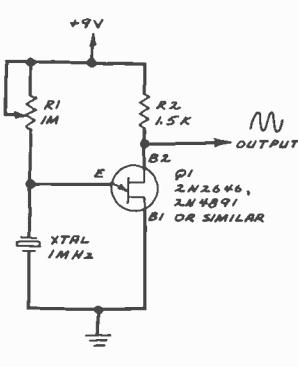

Fig. 7. UJT oscillator.
**Quartz-Crystal Oscillators.** The final piezoelectric device we will consider is the quartz-crystal oscillator. Precision-cut wafers of quartz are used to make piezoelectric resonators having exceptional frequency stability. Figure 7 shows an ultra-simple, crystal-controlled, unijunction-transistor oscillator that uses only four components. The quartz crystal replaces a capacitor normally used in this circuit. The oscillation frequency can be tuned from about 50 kHz to exactly 1 MHz when the crystal has a resonant frequency of 1 MHz. Tuning is accomplished by altering the resistance of *R1*.
If you monitor the output of the oscillator in Fig. 7 with an oscilloscope, you will notice that the oscillation frequency tends to change in jumps as *R1* is adjusted. This is a result of the crystal's oscillating at various harmonics of its 1-MHz resonant frequency. Near 1 MHz, the oscillator quickly locks onto the crystal's resonant frequency.
The circuit in Fig. 7 is useful for understanding the operation of a simple quartz-crystal-controlled oscillator. It can also be used to supply a marker frequency to calibrate oscilloscopes, signal generators, and shortwave receivers.